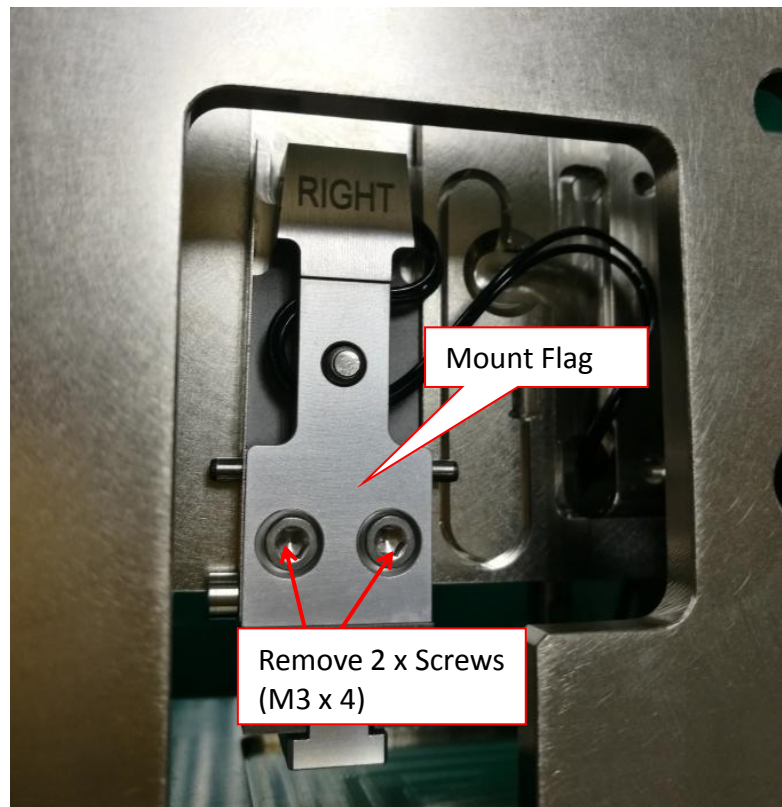

Figure 28 Mount Flag Removal
7. Remove 2 x Screws (M3 x 4) & Mount Flag as shown in Figure 28